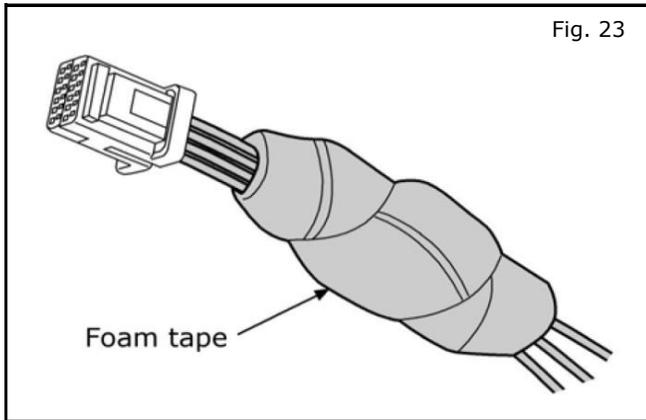

Fig. 23
a) Locate passenger side D-Opt connector connector behind glovebox on right side of footwell. See Fig. 23.